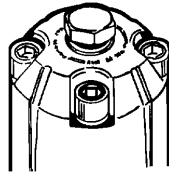

FIGURE 5
**FLUSH-OUT FEATURE** (see figure 5).